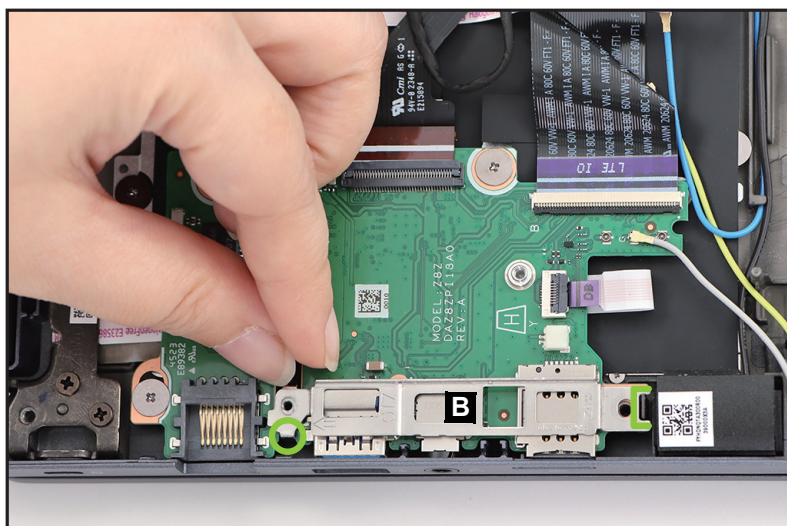

Figure 1-45. LTE Board Removal
2. Lift to release the I/O bracket (B) from the compartment studs (highlighted with the green line and circle) (Figure 1-45). Then remove the bracket.